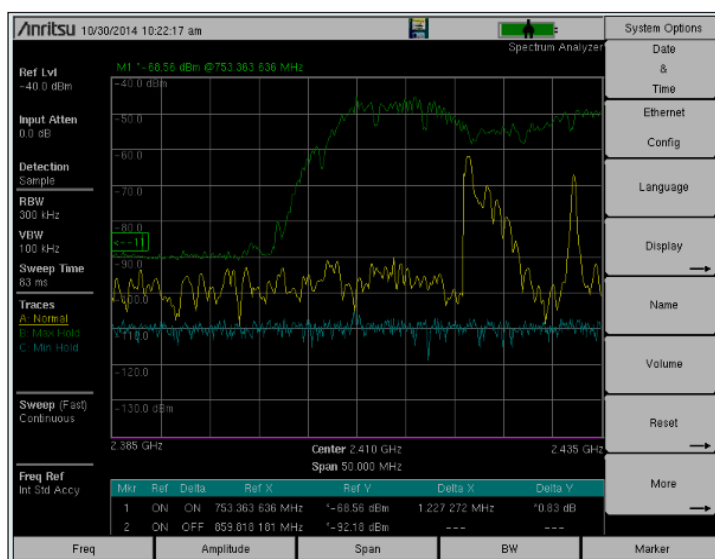
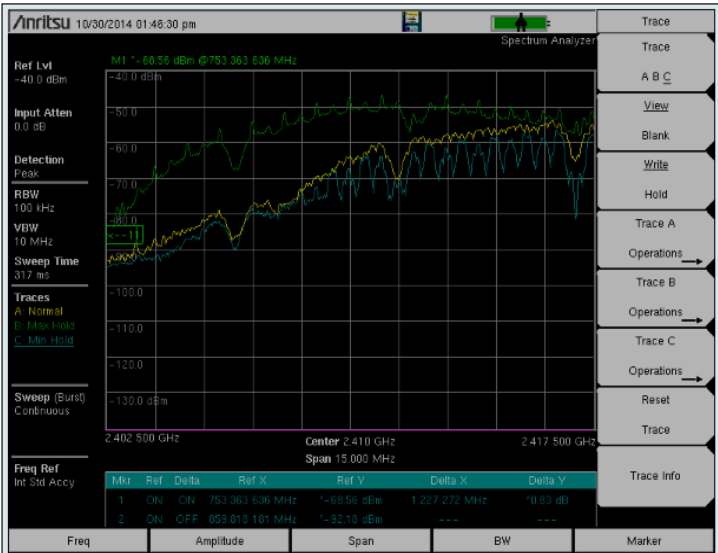

Figure 12: Quickly changing normal trace in yellow, a Max-hold trace in green, and a Min-Hold trace in blue.
Figure 15: Burst Detect on a Wi-Fi signal.
Setting the spectrum analyzer trace type is the first approach. Available trace types often include Normal, Max-Hold, Min-Hold, and Average. The last three trace types build up a record over time, and summarize the results in the viewed trace. Figure 12 illustrates some of these modes with a bursty Wi-Fi signal.
- Normal traces (illustrated in yellow) show what is coming in, as it happens. If the signal changes during the sweep, the trace level changes. That's why the yellow trace in Figure 12 goes up sharply just to the right of mid-screen. The Wi-Fi signal turned on while the sweep was in that position.
- Max-Hold trace (illustrated in green) does just that—holds the maximum amplitude for each trace point from multiple sweeps. This makes the trace continue to go up as various signals come and go. If a signal shows up once, it is recorded on the Max-Hold trace. Think of Max-Hold as a memory of the highest signal. Setting trace A to normal, and trace B to Max-Hold is useful in a number of situations, as it shows both the current power level and the excursion limits. That is part of what was done for the Wi-Fi signal in figure 12.
- Min-Hold traces (illustrated in blue) are useful to see if a constant signal is hidden within a bursty signal. To take our Wi-Fi example, the Wi-Fi signal normally comes and goes. If there is a signal always present when the bursty signal is absent, Min-Hold will spot it. That is why the blue trace in figure 12 shows a small constant signal at the center of the screen.
Figure 15 again shows the a Wi-Fi signal, but now with Burst Detect mode selected. The yellow trace is active, the green trace is on Max-Hold, and the blue trace is set to Min-Hold. You can see from the height of the Min-Hold trace that the active trace captures the Wi-Fi burst each and every sweep. Compare this to the earlier Wi-Fi sweep in figure 12, which was taken in Fast Mode.